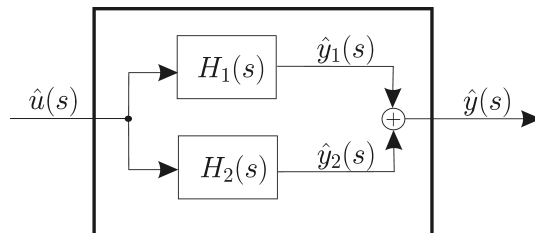

Figure 4.4: Two systems in parallel
2) Let us place the two systems of transfer functions  $H_1(s)$  and  $H_2(s)$  in parallel as shown on Figure 4.4.